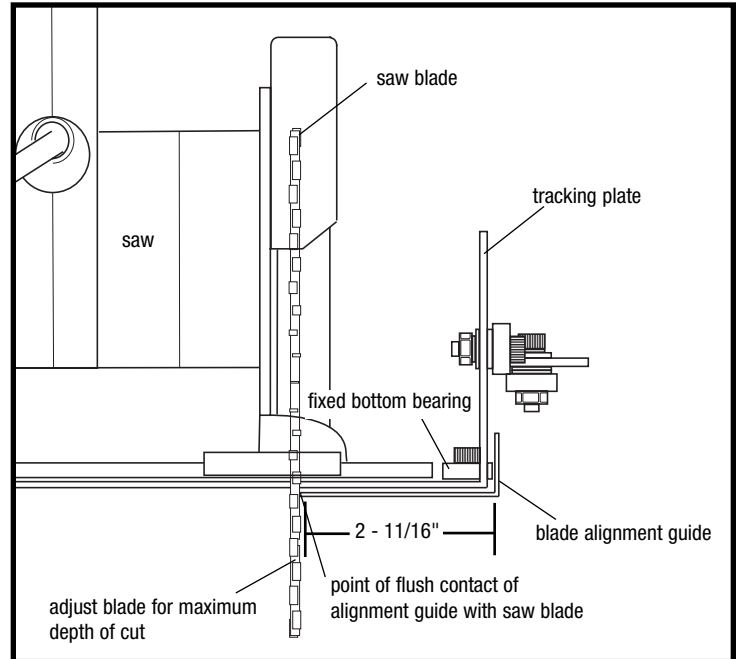

fig. 4 - Aligning the Blade
Blade Alignment (see fig. 4)
- After changing blades, make sure the cutting guide aligns with the edge of the blade (fig. 4).